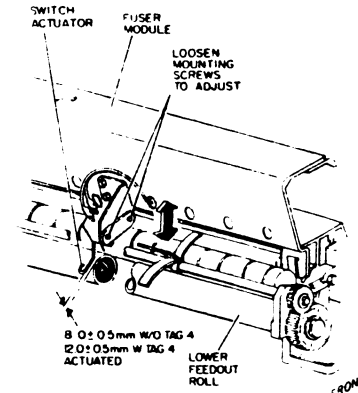

Figure 2. Adjusting the Feedout Switch (A3A2S4)
6. ADJUST THE FEEDOUT SWITCH TO  $8.0 \pm 0.5$  mm AT POINT OF ACTUATION TO THE LOWER FUSER ROLL (FIGURE 2).
6. ADJUST THE FEEDOUT SWITCH TO  $12.0 \pm 0.5$  mm AT POINT OF ACTUATION TO THE LOWER FUSER ROLL (FIGURE 2).